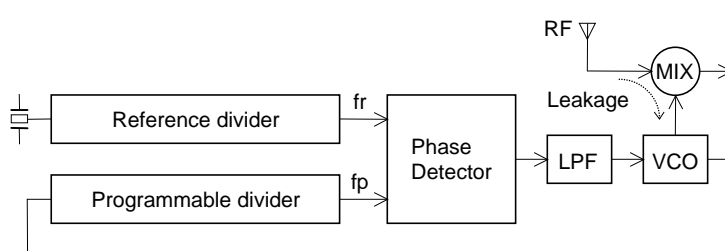
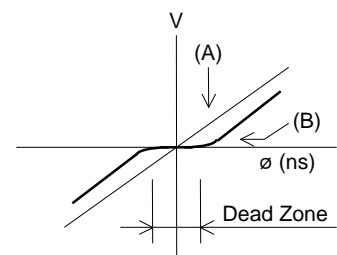

Figure 1
Figure 2
The phase comparator compares f_p with the reference frequency (f_r) as shown in figure 1. This circuit outputs a level (A) that is proportional to the phase difference ϕ as shown in figure 2. However, due to internal delays and other factors, the actual IC is unable to compare small phase differences, and thus a dead zone (B) appears in the output. To achieve a high signal-to-noise ratio in the end product, the dead zone should be as small as possible.